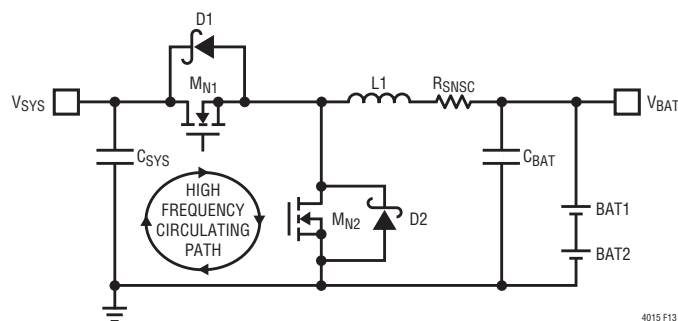

Figure 13. High Speed Switching Path
1. Keep M1, M2, D1, D2 and  $C_{SYS}$  close together. The high dI/dt loop formed by the MOSFETs, Schottky diodes and  $C_{SYS}$  shown in Figure 13 should have short wide traces to minimize high frequency noise and voltage stress from inductive ringing. Surface mount components are preferred to reduce parasitic inductances from component leads. Connect the drain of the top MOSFET and cathode of the top diode directly to the positive terminal of  $C_{SYS}$ . Connect the source of the bottom MOSFET and anode of the bottom diode directly to the negative terminal of  $C_{SYS}$ . This capacitor provides the AC current to the MOSFETs.